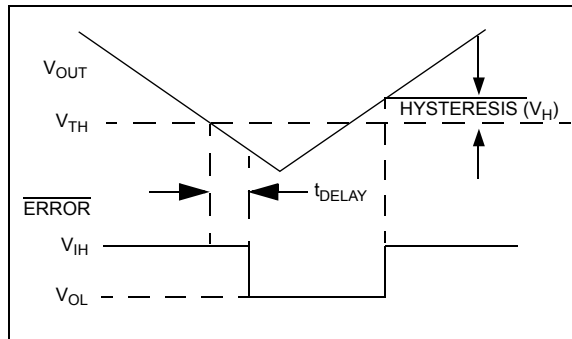

FIGURE 4-2: Error Output Operation.
ERROR is driven low whenever  $V_{OUT}$  falls out of regulation by more than  $-5\%$  (typical). This condition may be caused by low input voltage, output current limiting, or thermal limiting. The ERROR output voltage value (e.g. ERROR =  $V_{OL}$  at 4.75V (typical) for a 5.0V regulator and 2.85V (typical) for a 3.0V regulator). ERROR output operation is shown in Figure 4-2.
- Changed Figure 4-2.